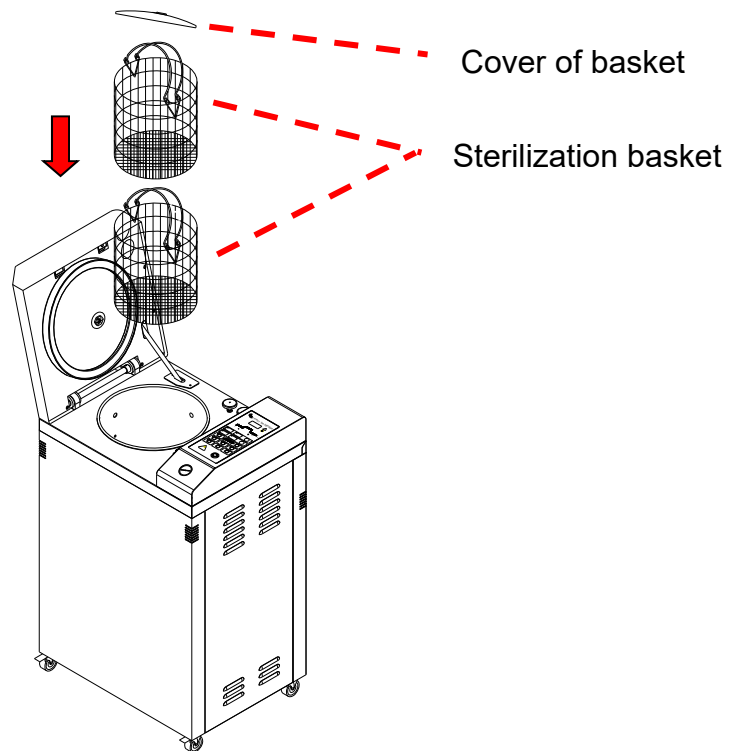

Figure 5
D. Install the sterilization basket as Figure 5.